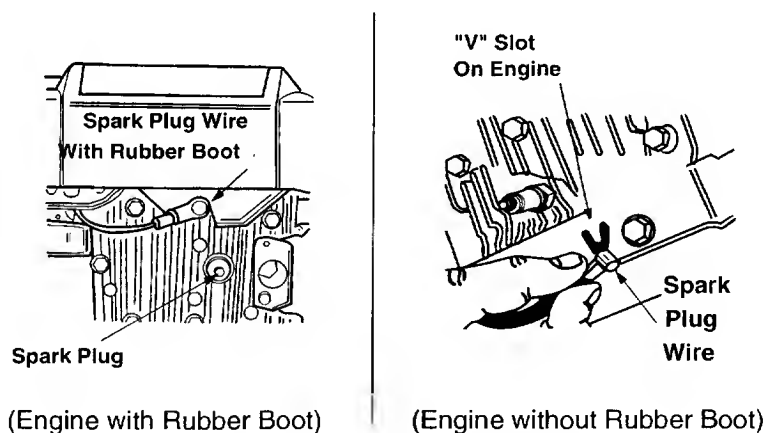

Figure 2
- Disconnect spark plug wire from the spark plug and ground it against the engine. On engines with a rubber boot, attach rubber boot to a bolt on the engine to ground. See Figure 2.